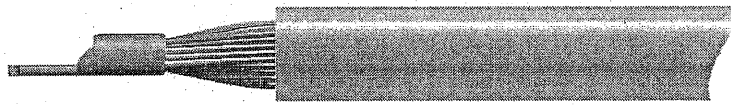

Figure 25.
5. Straighten the cable back to the Black PVC Outer Sheath as much as possible then crimp the Inner Copper Conductors into the supplied 50mm² crimp lug using a suitable compression or mechanical crimping tool. (Figure 25)